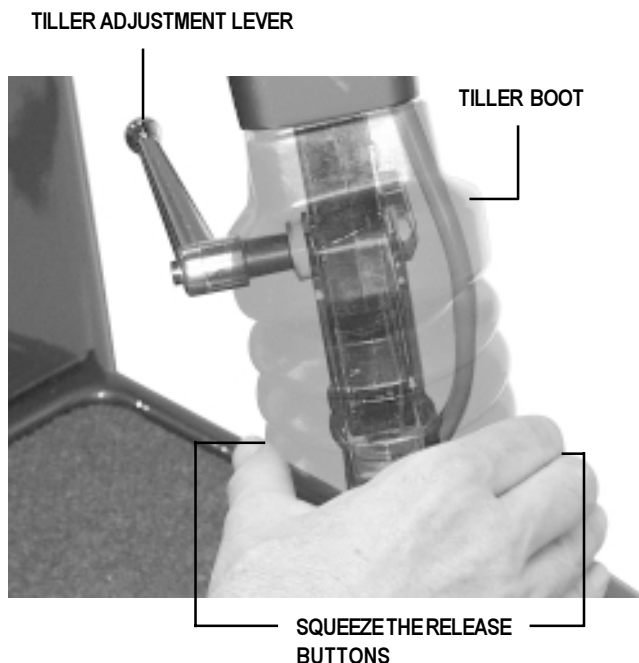

FIGURE 10. TILLER ANGLE ADJUSTMENT
1. Turn the tiller adjustment lever counterclockwise until it is loose. If the tiller adjustment lever comes in contact with the tiller basket, pull it outward, turn it clockwise, and release it. Continue to loosen until you are able to move the tiller. See figure 10.